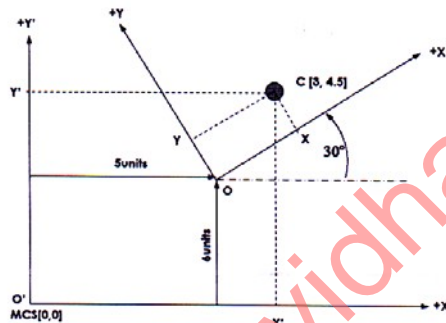

Fig. Q4b
b) The coordinates of the center of the circle in WCS are [3, 4.5]. Find the coordinates of the center of the circle with respect to MCS. The orientation of WCS and MCS are shown below in Fig Q4b. [10]